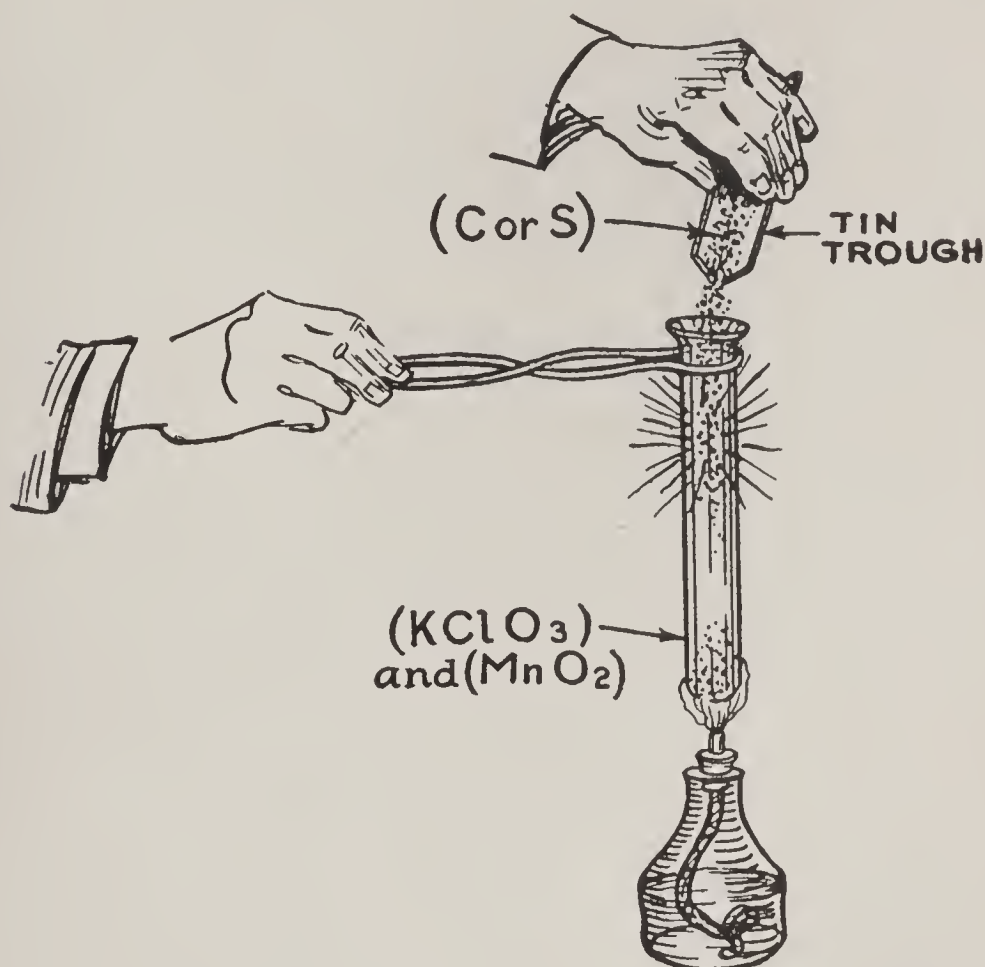

FIG. 39.—How to Make and Experiment with a Little Oxygen.
A Simple Way to Make Oxygen. With this simple apparatus you can make enough oxygen (O) to do some pretty experiments with, but, naturally, the effects are not so striking as where larger quantities of the gas are used. Put $\frac{1}{2}$ teaspoonful of potassium chlorate ($KClO_3$) and the same amount of manganese dioxide (MnO_2) into your largest test tube and hold it with your test-tube holder over the flame of your alcohol lamp or Bunsen burner, as shown in Fig. 39, and very soon oxygen (O) will be set free. Now slowly sprinkle a little finely powdered charcoal (C), sulphur (S) and other substances, in turn, into the tube by means of a tin trough and you will get some very pretty effects.